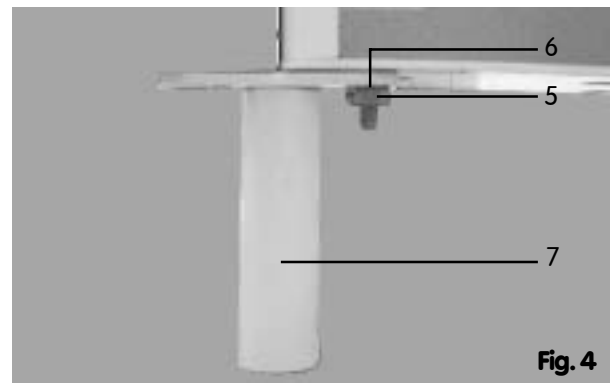

Fig. 4
From the accessory pack, take the stand foot (7), two M10 nuts (5) and washers (6), and assemble the foot as shown in Fig. 4
Ensure that the installation plate of the stand foot is correctly positioned for connection to the next element (Fig. 4).